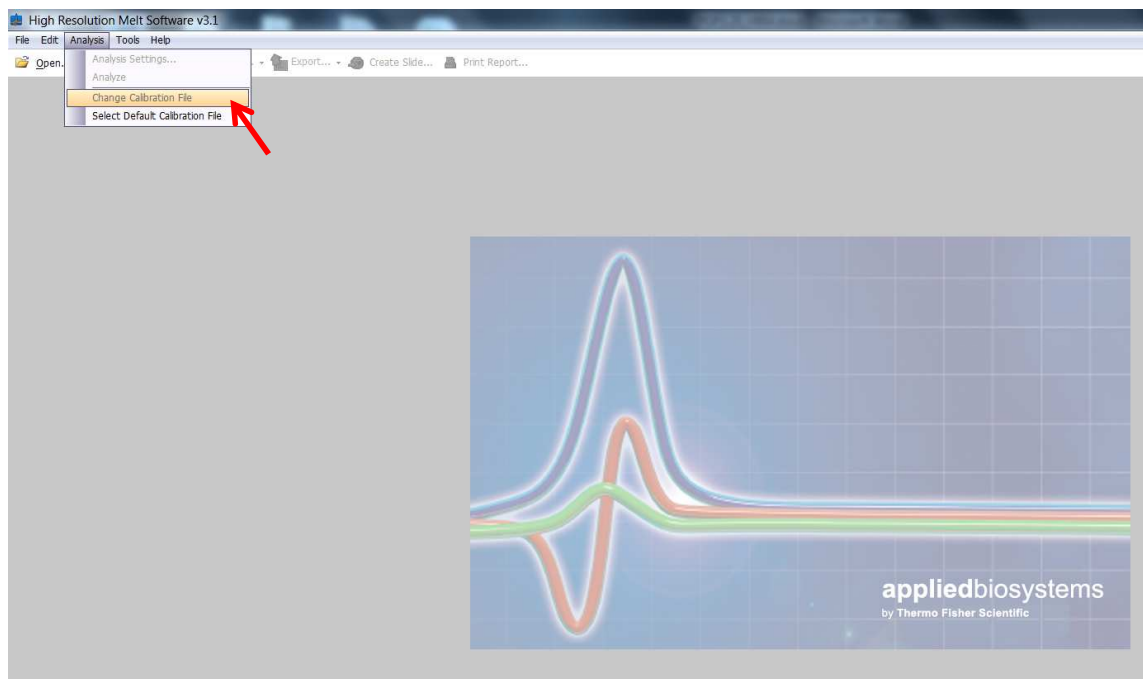

Fig. 1c
1. Clique em *Analysis > Change Calibration File* (Fig. 1c)